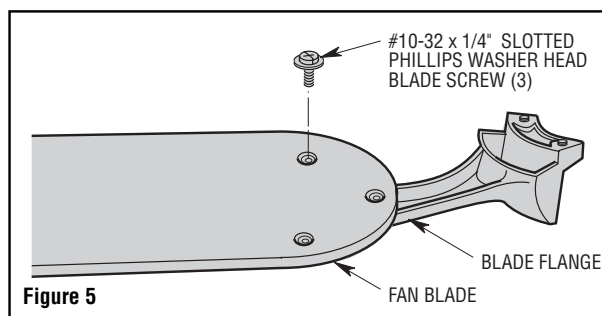

Figure 5
- Mount blade flange to fan blade using three #10-32 x 1/4" slotted Phillips washers head screws (Figure 5).